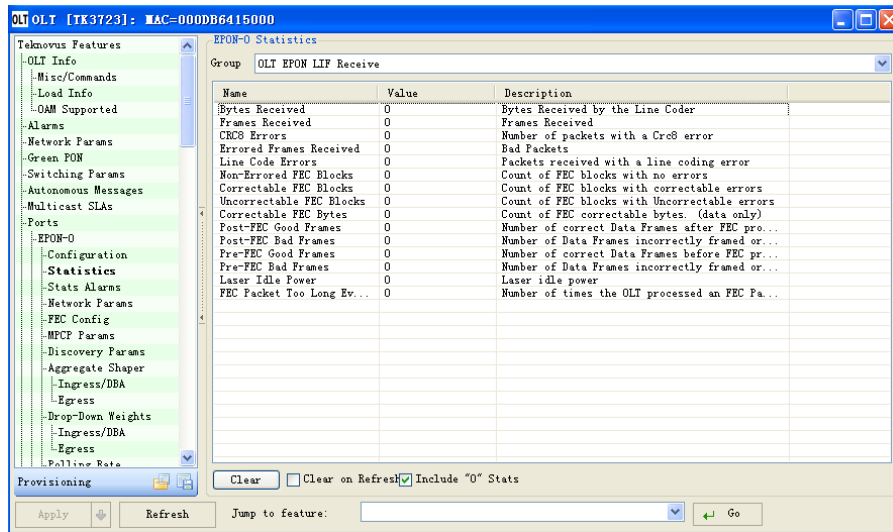

Figure 4-4 Statistical Data
- ✓ Click Refresh to view the name, value, description and other details of the statistics shown in Figure 4-4.